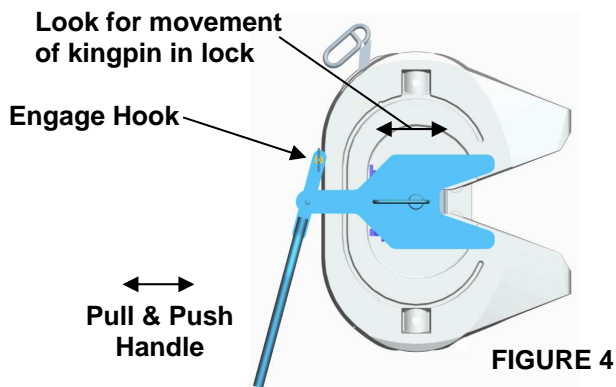

FIGURE 4
- b. **THE LOCK IS TOO LOOSE IF:** You feel fore-aft play when pulling and pushing on the lock tester handle (see figure 4)